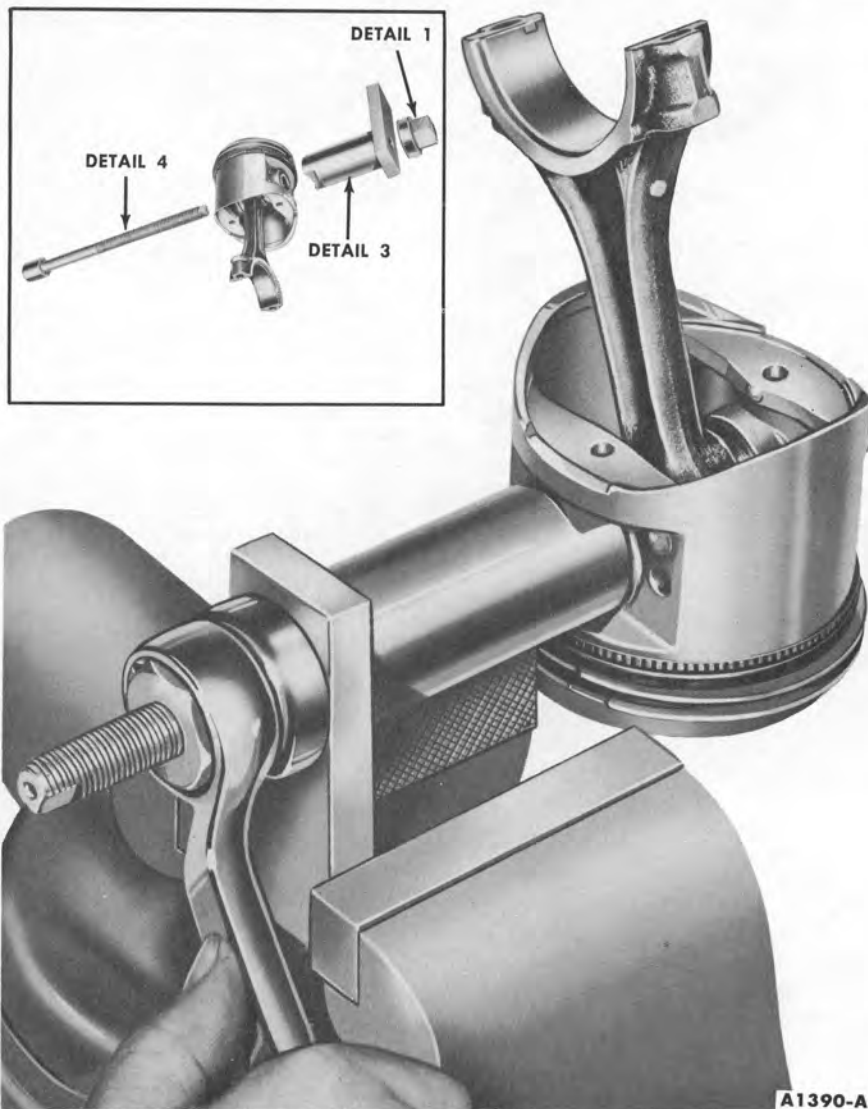

FIG. 57—Piston Pin Removal—Typical
3. Remove the piston pin from the piston and connecting rod (Fig. 57). Remove the piston rings.